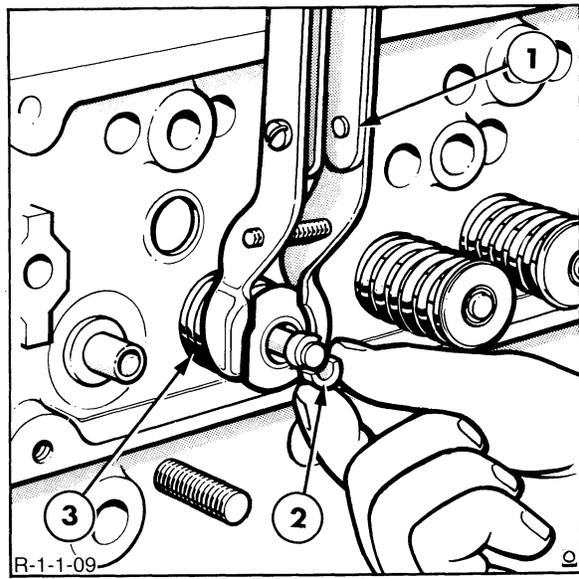

FIGURE 1-10
2. Using a valve spring compressor, Figure 1-10, remove the retainer locks, spring retainers/rotators, springs and seals from each valve, Figure 1-11.